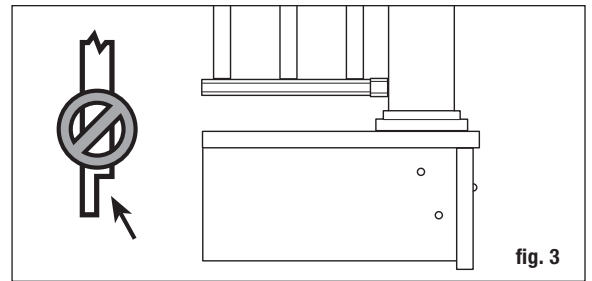

fig. 3
Step 2 Install railing posts prior to installing deck boards. Cedar or pressure-treated pine 4x4 railing posts or a post mount provides the structural strength for the railing. The length of each post is determined by the total of the joist width (typically 7-1/4") + decking thickness (1") + railing height (36") + spacing for post cap (2") = 46-1/4". **Important: Do not notch the 4x4 railing posts. Notching will reduce the strength of the post and could result in railing collapse or failure (fig. 3).** Use structural post mounts for installation on concrete.
Step 3 Position, plumb with a level, and clamp the railing post on the interior face of the joist. Plumb again. The 4x4 railing post should be bolted to the inside of the joist using two 1/2" x 6" galvanized carriage bolts. Corner posts use a third carriage bolt inserted through the adjacent joist (fig. 3).
Important: Do not notch the 4x4 railing posts. Notching will reduce the strength of the post and could result in railing collapse or failure (fig. 3). Use structural post mounts for installations on concrete.